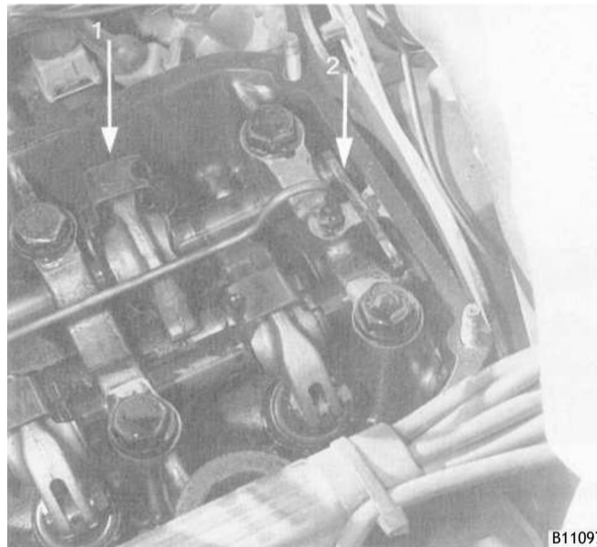

Fig. 19. Rocker arm retainer (1) and rocker arm shaft guide plate (2). Note how guide plate fits into notch in rocker arms shafts.
5. Remove the rocker arm retainers by lifting them straight off. Note that the straight leg of the clamp fits into the slot in the rocker arm shaft. Lift out the rocker arm shaft guide plate. See Fig. 19.